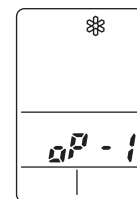

Fig. 59b
- d) ✻ appears and "oP-1" blinks in the remote controller clock display area. (Fig. 59b)